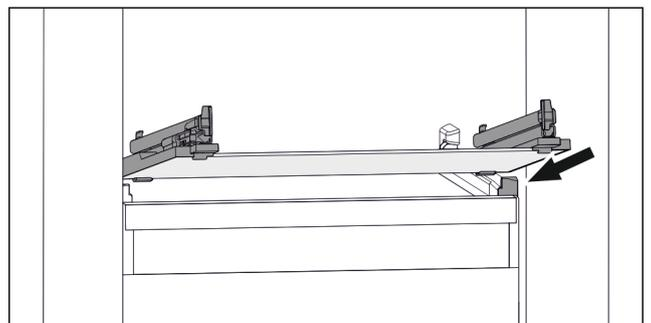

Fig. 95 Example illustration of glass shelf
- ▶ Position glass shelf at an angle behind the stoppers. (see Fig. 95)